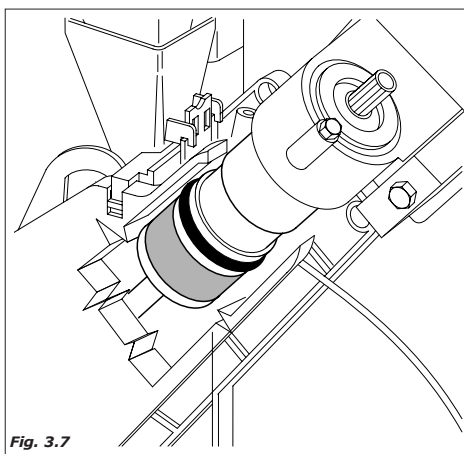

Fig. 3.7
- the rotation group geared motor brings it into the dispensing position and simultaneously compresses the ground coffee (Fig.3.7).